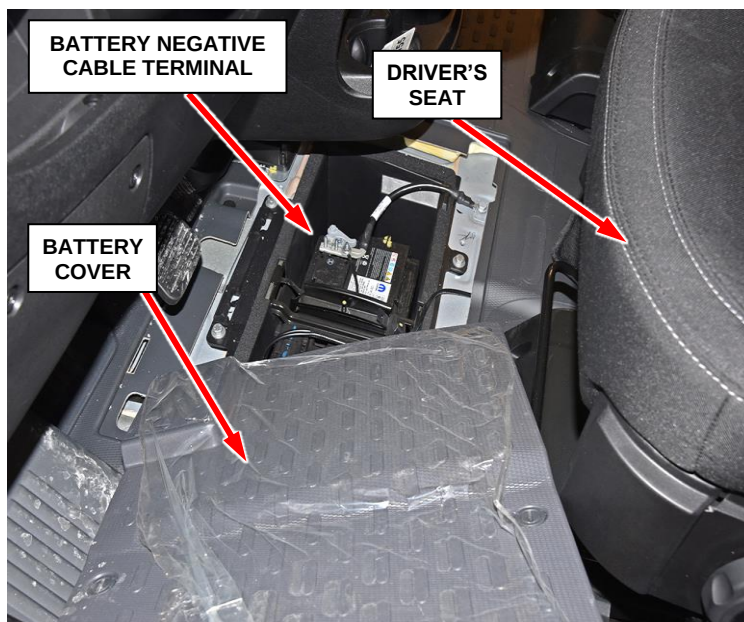

Figure 9 – Battery Cover and Negative Cable
2. Remove the battery cover (Figure 9).
3. Loosen the battery negative cable terminal clamp then remove and isolate the negative cable terminal from the battery post (Figure 9).
NOTE: The retaining clips (1) are only present on the upper right and upper left cooling fan module mounts. The lower right and lower left cooling fan module mounts do not have a retaining clip (Figure 9).
31. Connect and secure the battery negative cable terminal clamp to the battery negative post (Figure 9).
45. Install the battery cover (Figure 9).